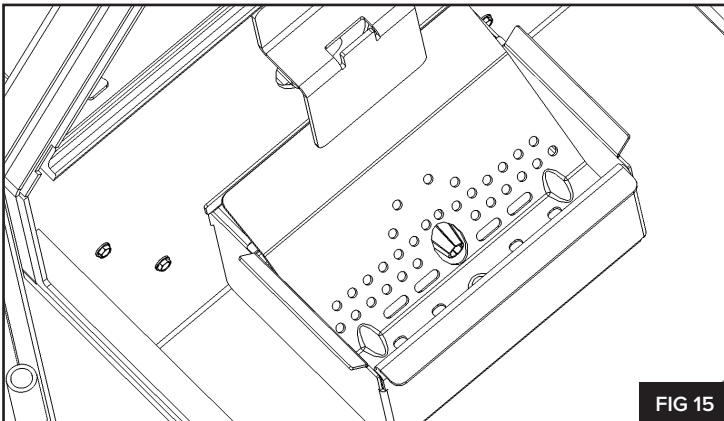

FIG 15
5. Reinstall the burn grate **(FIG 15)**. Begin by resting the right hand side of the burn grate on the fire box and then pressing down on the left hand side of the burn grate until fully seated. When the burn grate is properly seated it rests firmly on the right hand side of the firebox and fits close to the hopper wall. Finally, ensure the igniter assembly is centered in the respective hole in the burn grate.